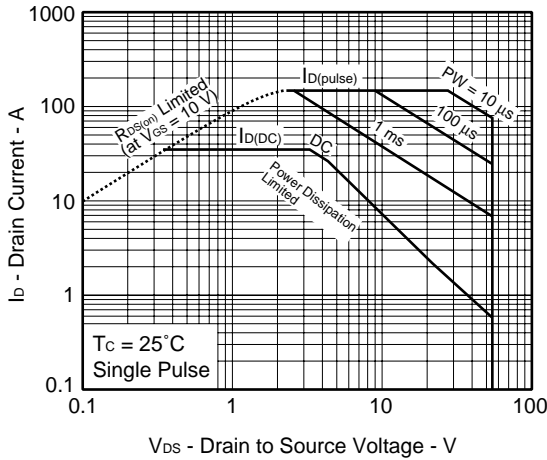

Figure4. SINGLE AVALANCHE ENERGY DERATING FACTOR
2. Starting $T_{ch} = 25 \text{ }^\circ\text{C}$, $R_G = 25 \Omega$, $V_{GS} = 20 \text{ V} \rightarrow 0 \text{ V}$ (see Figure 4.)